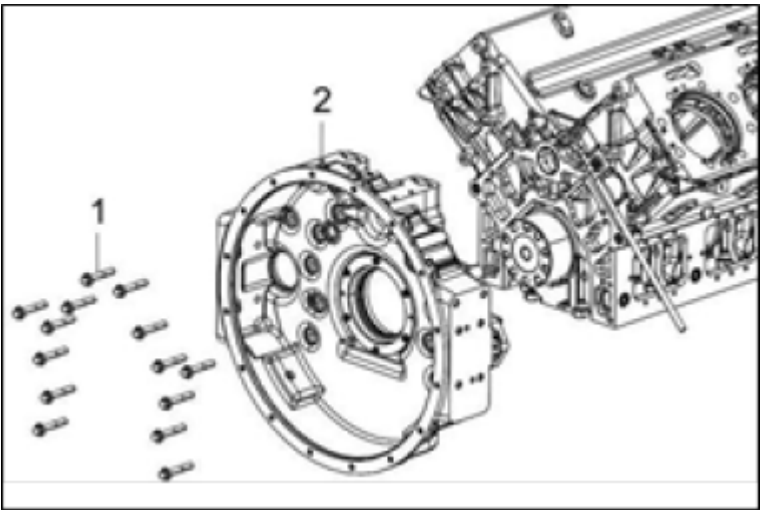

Figure 99.
3. Loosen and remove the flywheel housing bolts (Figure 99, Item 1).
4. Remove the flywheel housing (Figure 99, Item 2).